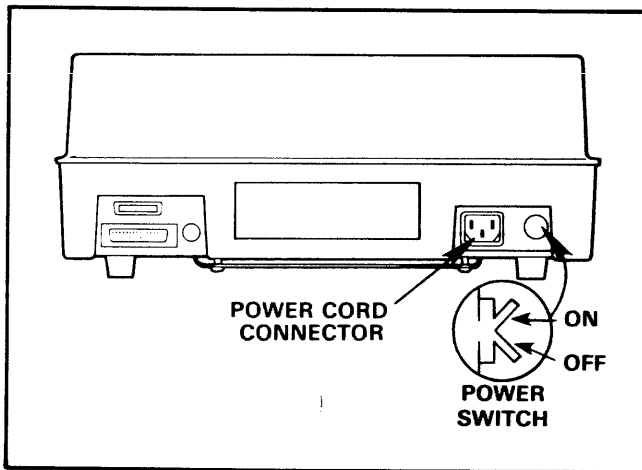

Figure 3-2. Programmer Power Switch Location
2. Lift the power switch up to the ON position (see figure 3-2).
2. Push the power switch down to the OFF position (figure 3-2).